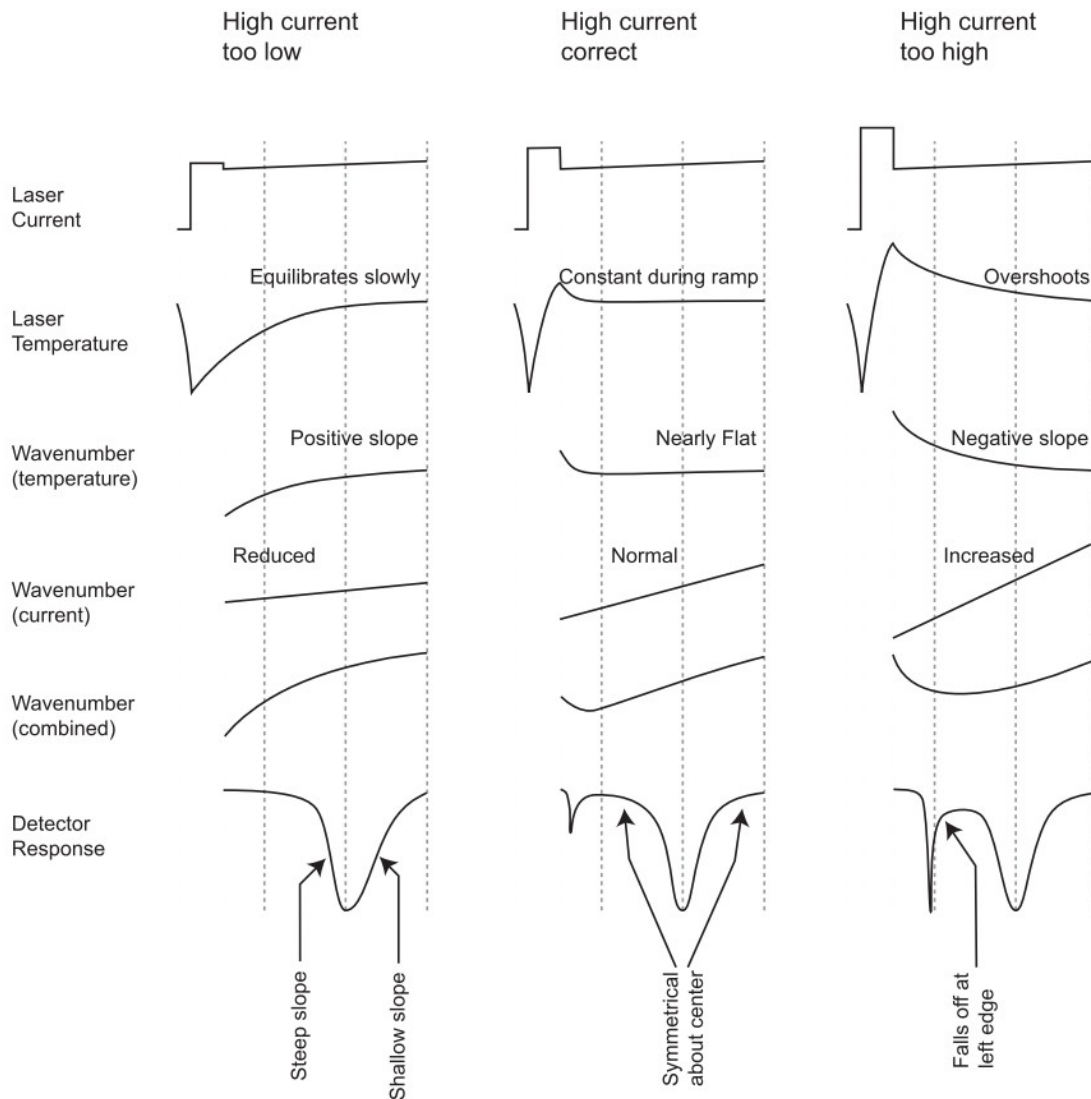
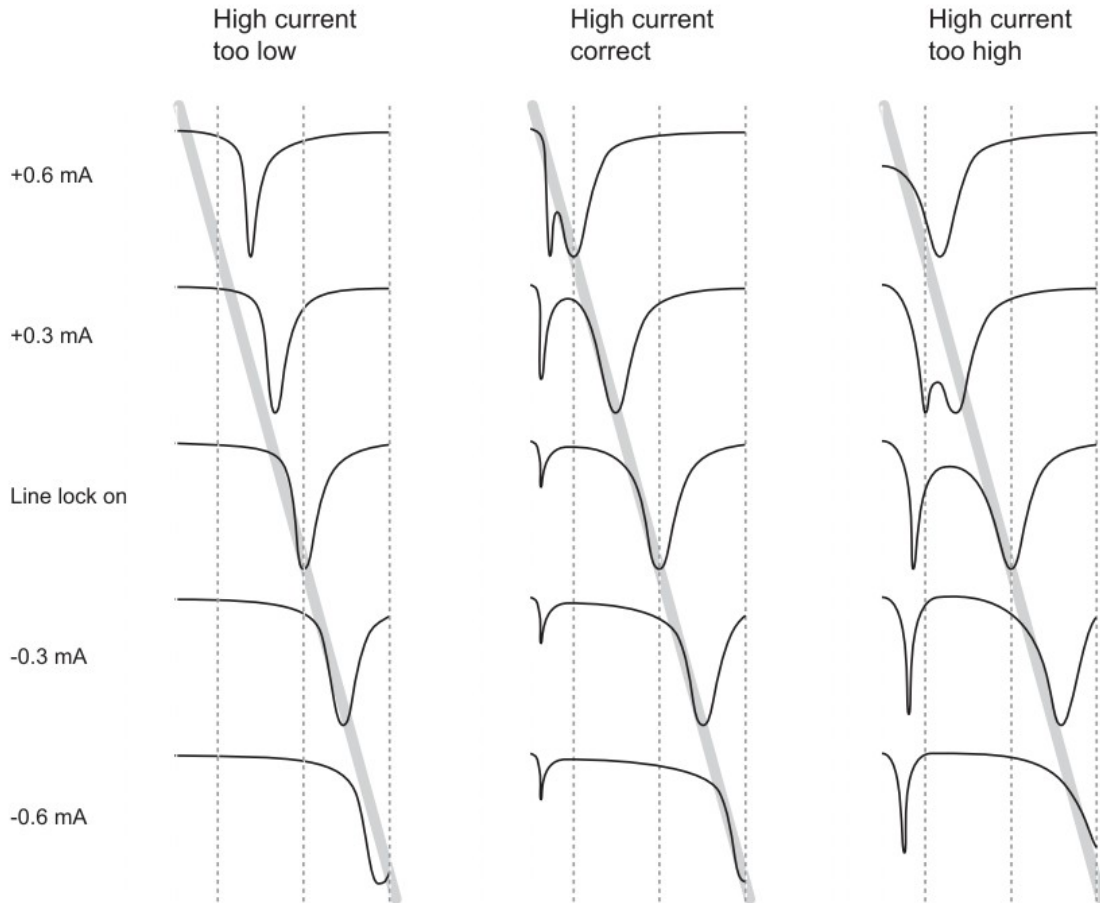

FIGURE C-6. Effects of temperature perturbation
FIGURE C-7. High current adjustment procedure
The laser cools slightly at the start of the spectral scan when it is turned off by reducing its current to the zero-current value, as discussed in Section 4.2.5, Laser Scan Sequence (p. 27). If the actual spectral scan started immediately thereafter, the laser temperature would rise during the entire spectral scan. The rise in temperature would be more rapid at first, but slow near the end of the scan as the temperature approached equilibrium. The change in temperature would change the laser's emission frequency, adding an undesired spectral modulation, as illustrated in the far left panel of FIGURE C-6. To minimize this problem, the laser current is increased above the DC current by an amount specified in the *High current offset* parameter. The duration of this high current pulse is determined by the laser *High current count* parameter. When these parameters are properly set, the heat from the increased current compensates for the heat lost when the current is reduced, stabilizing the laser temperature more quickly.
As shown in FIGURE C-6, improper high-current adjustment makes the absorption line appear asymmetrical. The goal of the high-current adjustment procedure is to make the absorption line symmetrical about its center.
A more objective method to evaluate this symmetry is to adjust the DC current to move the absorption line to the left and right of the center line. If the high current is adjusted properly, the absorption line will move the same distance left/right of center for the same change ( $\pm$ ) in DC current. This is illustrated in FIGURE C-7. The left panel shows that with the high current too low, changing the DC current by +0.6 mA moves the absorption line only halfway to the left edge of the scan, but changing the DC current by -0.6 mA moves it all the way to the right edge of the scan. In the center panel, the absorption line moves symmetrically, all the way to the left and right edge of the spectral scan for the same ( $\pm$ ) change in DC current.
12. Evaluate the results and iterate as needed using the steps below and referring to FIGURE C-7:
- If the high current is too high, the laser's frequency will overshoot the absorption line at the beginning of the spectral scan, quickly scan backwards through the absorption line, and then scan forward through the absorption line. This is visible in the reference detector display as a second narrow absorption line at the left edge of the spectral scan data. See FIGURE C-6 and FIGURE C-7. This is acceptable as long as
this “ghost” line is in the omitted part of the scan. But if the signal falls off at the left edge of the scan as illustrated in the lower right of FIGURE C-6, the high current must be reduced (even if the “counting steps” criterion indicates the high current is already too low).
- When incrementing the DC current, it may not be possible to move the absorption line to the left edge because the two absorption lines (the true line and its “ghost”) may merge just inside the left vertical dotted line (see FIGURE C-7, top right). This also indicates the high current is too high.